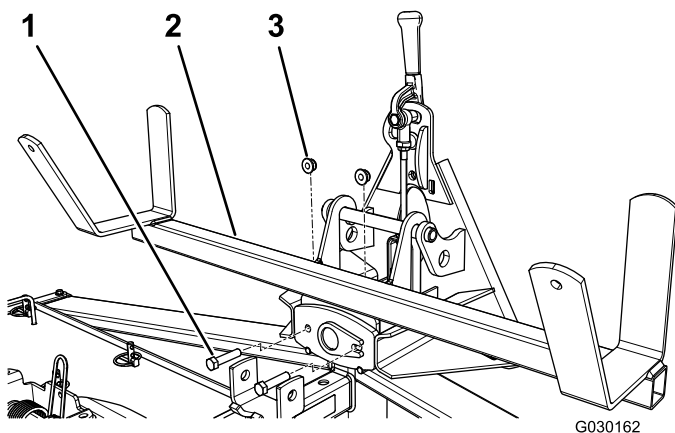

Figure 2
2. Install the cradle onto the adapter assembly and secure it with 2 bolts ($\frac{3}{8}$ x 1-1/2 inches) and 2 flange nuts ($\frac{3}{8}$ inch) as shown in Figure 2.